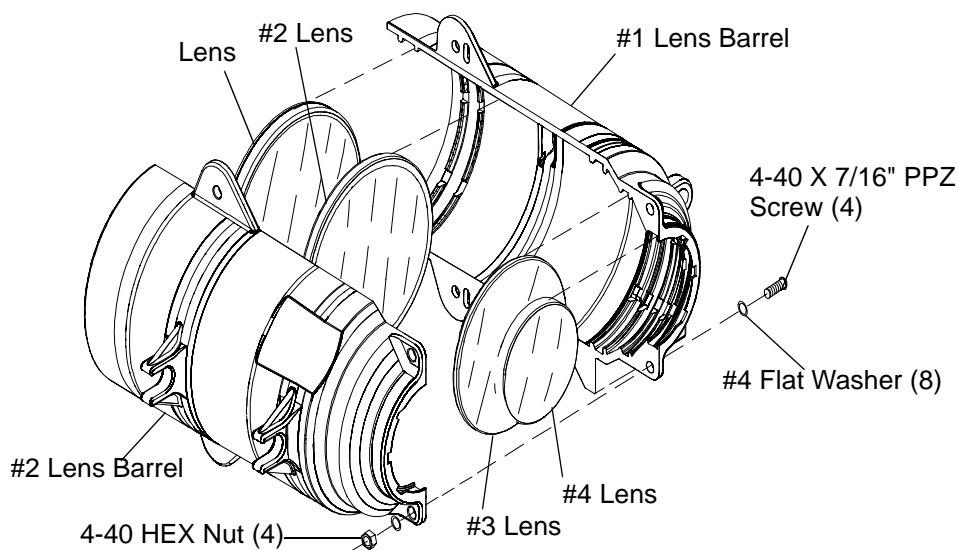

Figure 2-30: VL6 Luminaire NFOV Lens Assembly Dust Prevention Modification and Cleaning
Step 5. At lens assembly, using #2 Phillips screwdriver and 1/4" nut driver, remove four 4-40 X 7/16" PPZ screws, four 4-40 HEX nuts, and eight #4 flat washers. Figure 2-30.